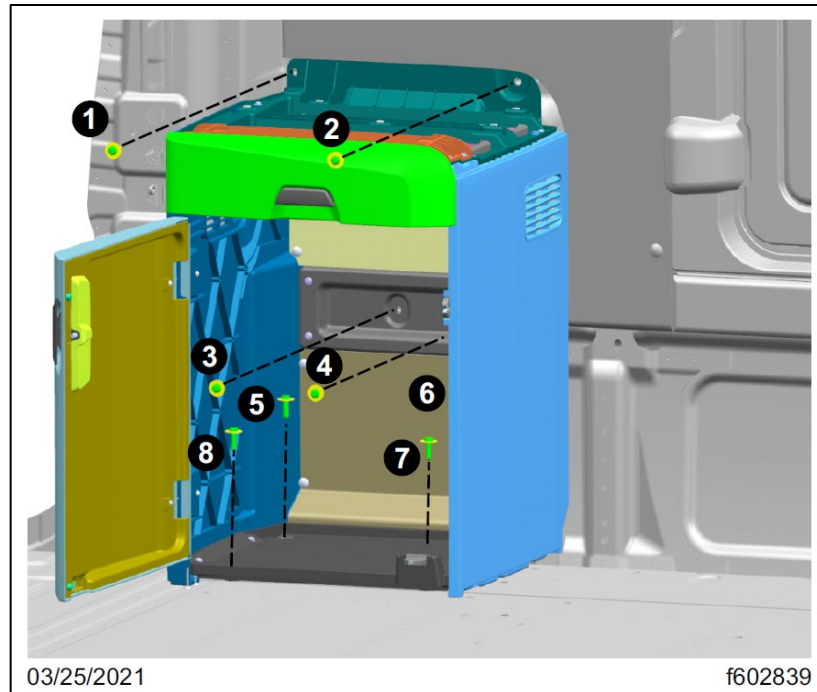

Fig. 71, Fasteners That Attach the Refrigerator Cabinet to the Cab with Tightening Sequence
20. If equipped, install the refrigerator cabinet. See Fig. 71.
20.1. See Fig. 71. Position the refrigerator cabinet, and install the eight screws that attach the refrigerator cabinet to the cab. Tighten the fasteners 7 to 9 lbf.ft (9 to 12 N.m) as per sequence shown in Fig. 71.